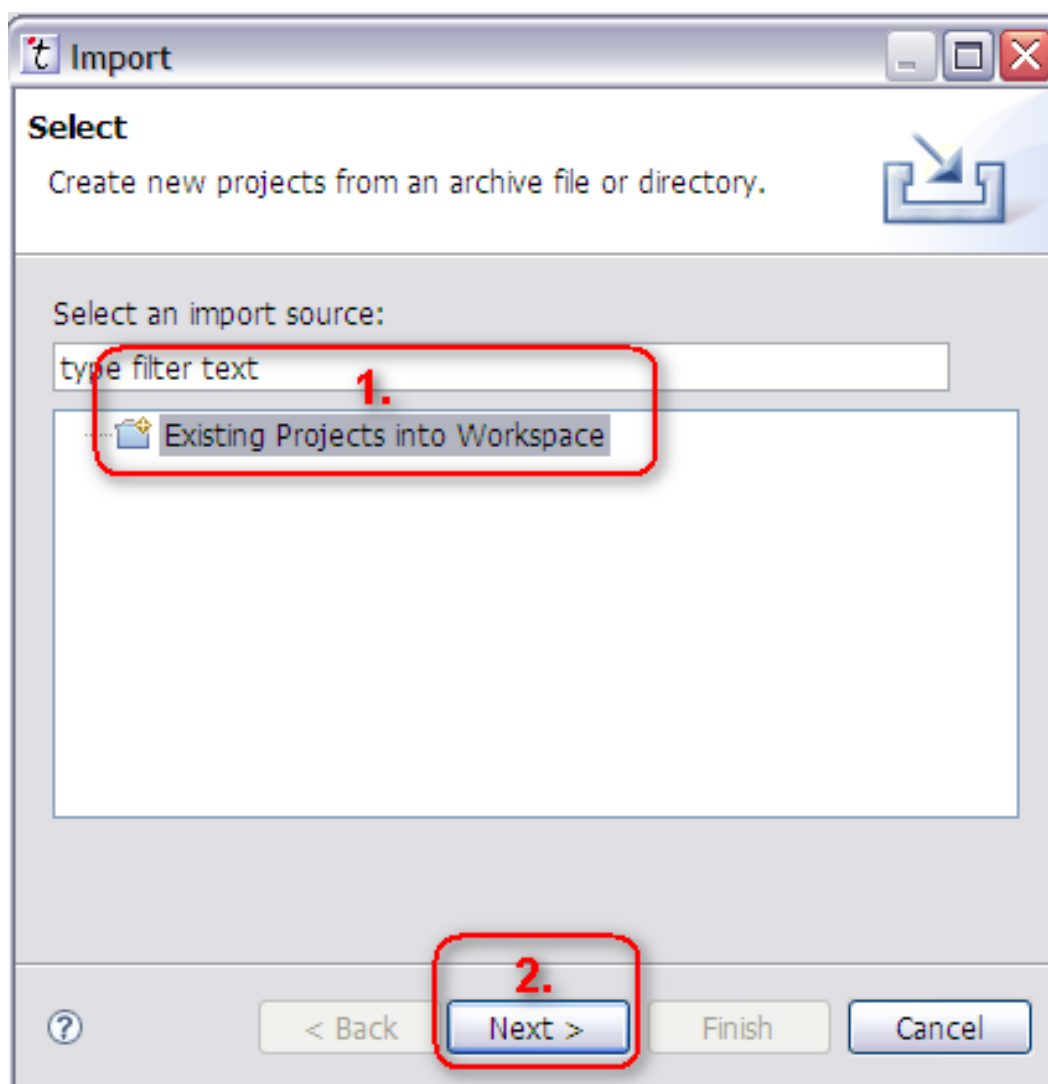

Figure 4-3. Import Window - the First View
- b. Select "Existing Projects into Workspace" and click on "Next" button as shown in Figure 4-3. Import Window - the First View